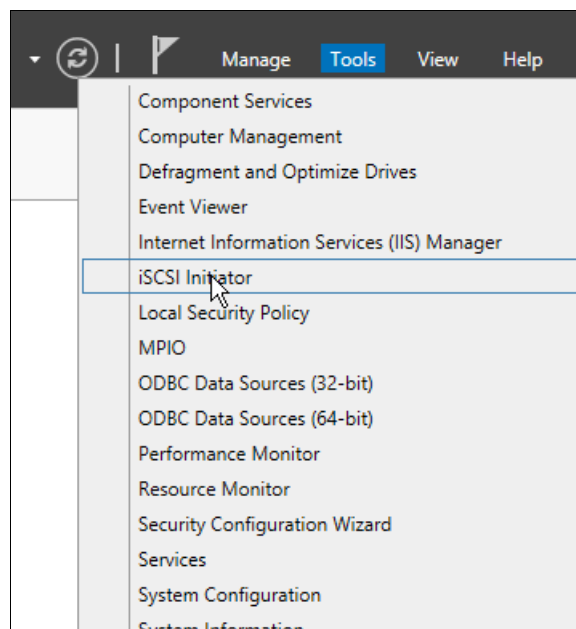

Figure 5-44 Starting the iSCSI Initiator
1. Connect to your Windows server and open the iSCSI Initiator by opening **Server Manager** and going to **Tools** → **iSCSI Initiator**, as shown in Figure 5-44.